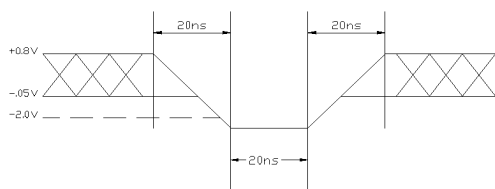
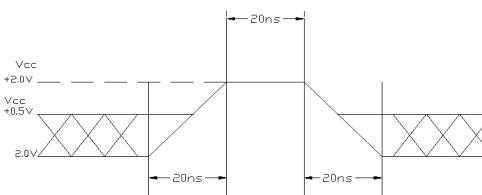

Figure 1.
Figure 2 .
1. Minimum DC voltage on input or I/O pins is -0.5V. During Voltage transitions, inputs may overshoot Vss to -2.0V for periods of up to 20 ns. See Figure 1. Maximum DC voltage on input or I/O pins is Vcc +0.5V. During Voltage transitions, inputs may overshoot Vcc to +2.0V for periods of up to 20 ns. See Figure 2.
2. Minimum DC input voltage on A9 pin is -0.5V. During voltage transitions, A9 pins may overshoot Vss to -2.0V for periods of up to 20 ns. See Figure 1. Maximum DC input voltage on A9 is +12.5V inputs which may overshoot to +13.5V for periods of up to 20 ns. See Figure 2.